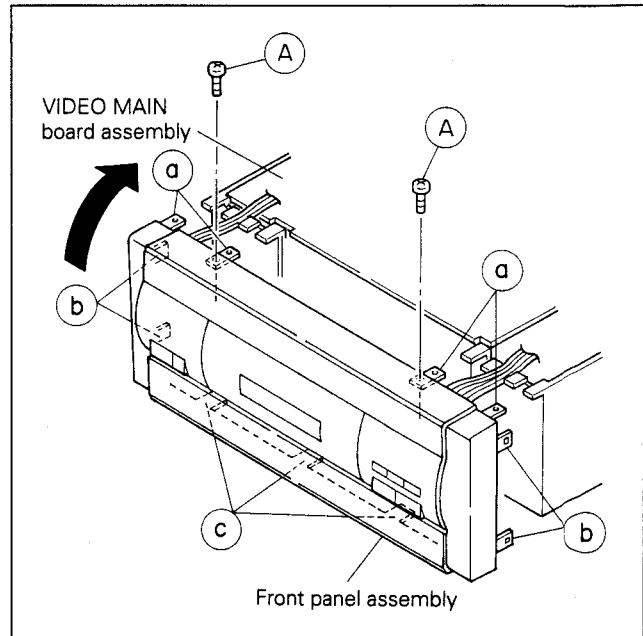
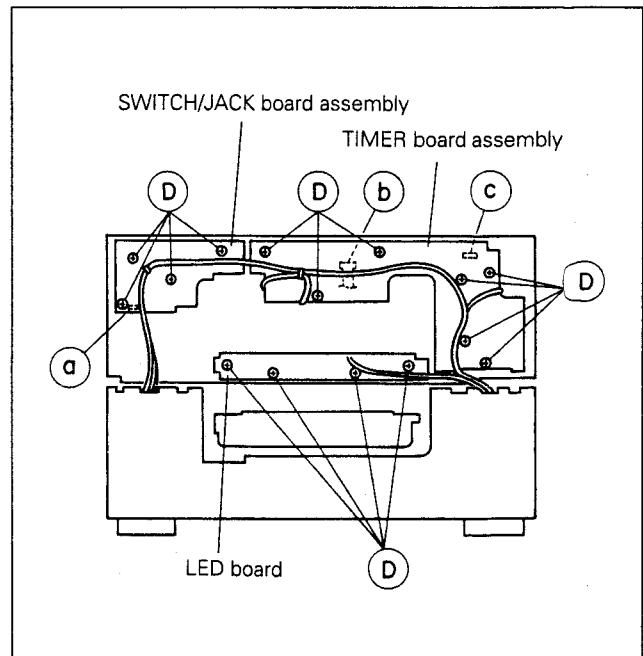

Fig. 1-2A Front panel assembly 1
Fig. 1-2B Front panel assembly 2
2. Remove two screws (A).
5. Raise the front panel assembly in the direction of the arrow (Fig. 1-2A) and turn it over as shown in Fig. 1-2B.